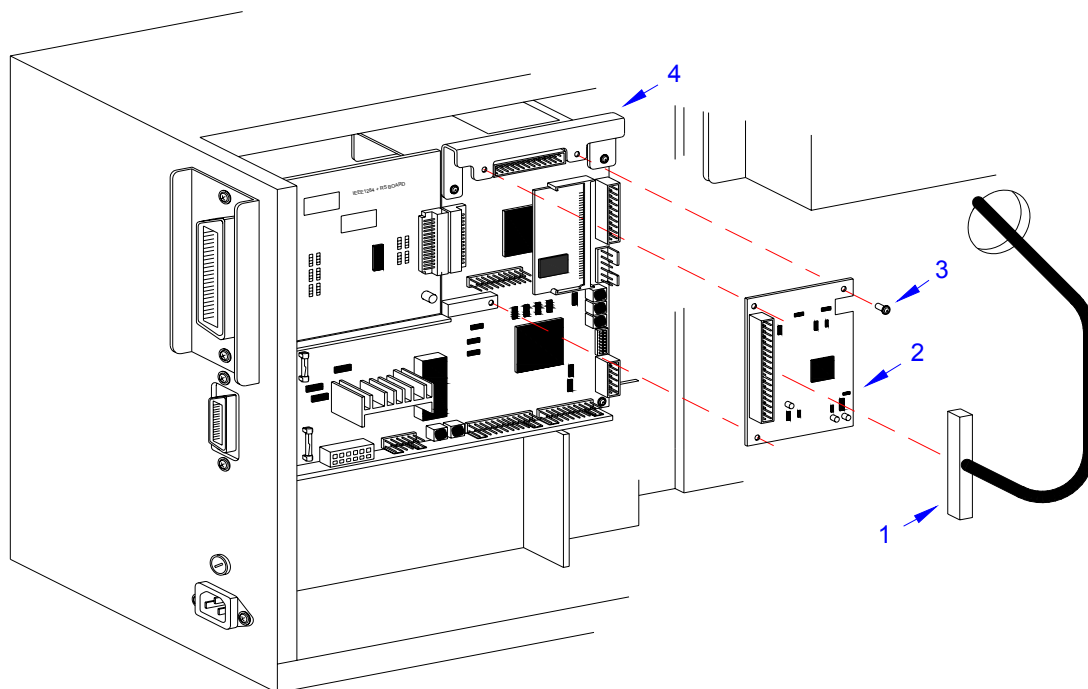

Figure 7-4, Daughter Board Replacement
- 3 Disconnect the print head wiring harness (1, Figure 7-4) from daughter board (2).
- 4 Remove the three screws (3) securing daughter board (2) to main circuit board (4).
- 5 Disconnect daughter board (2) from main circuit board (4).
- 6 Connect replacement daughter board (2) to main circuit board (4) and secure using three screws (3).